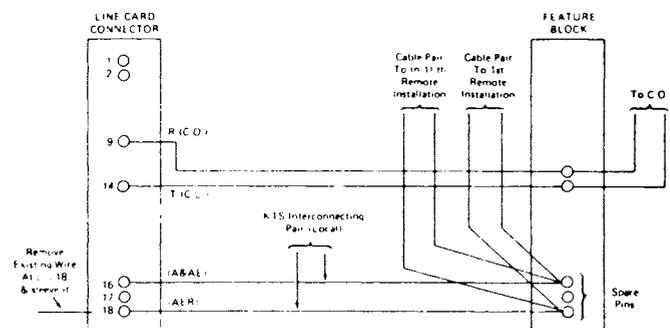

FIG. 3 Installation Information (n stations)
- 5.1 The SAN/BAR 4100A has all pin assignments compatible with shelf wiring for line cards except one cable pair between itself and the companion unit remotely located. The cable pair is to be terminated at A & AE (pin # 16) and AER (pin # 18) of the 4100A associated with the central office or PABX line to be used. See Figure 3.